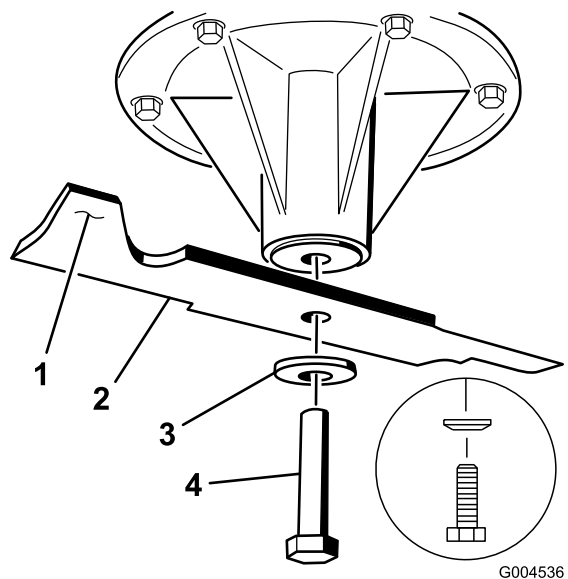

Figure 82
1. Install the blade onto the spindle shaft (Figure 82).
2. Install the spring disk and blade bolt (Figure 82).
**Note:** The spring-disk cone must be installed toward the bolt head (Figure 82).